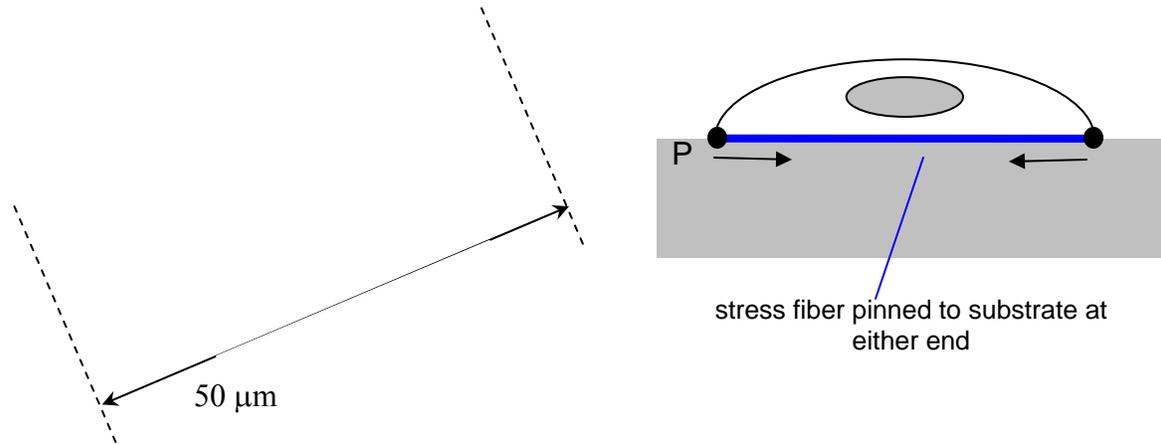

Figure 3: Structural elements of cells under axial end-loads.
3. Bundles of protein filaments inside tissue cells are structural elements that can generate contractile force against the materials to which they adhere. Figure 3 shows struts called “stress fibers” that extend from one end of the cell to the other. These fibers are made of crosslinked, filamentous actin, with an average diameter of 2 μm and an effective “stiffness” E of 16 kN/m^2 .